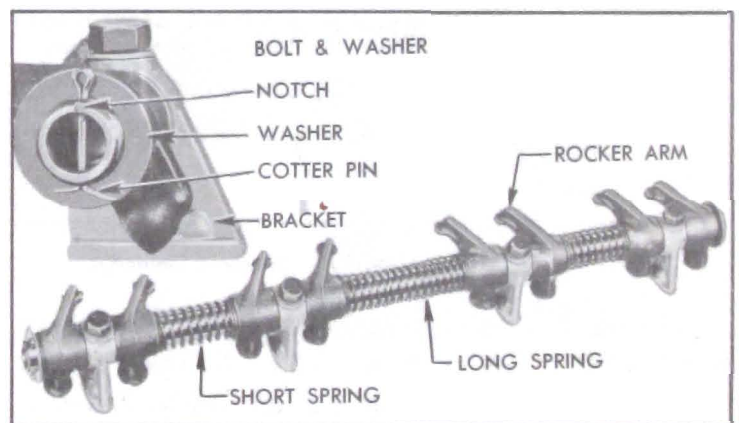

Figure 2-19—Rocker Arm and Shaft Assembly
3. Assemble springs, rocker arms and brackets on shaft as shown in figure 2-19. Note
(4) Install locking plates with exhaust manifold bolts, tighten bolts only to 10-15 ft. lbs. torque, then bend one tab of plate against a flat on each bolt head.
(5) When rocker arm and shaft assembly is installed, make certain that the notch in one end of shaft is upward in line with bracket bolt heads. See figure 2-19.
(6) Install intake manifold gaskets so pointed end of each gasket is "IN" toward center of engine.
(7) After installation is completed and engine has been warmed up to operating temperature, recheck cylinder head bolts for 63-73 ft. lbs. torque.